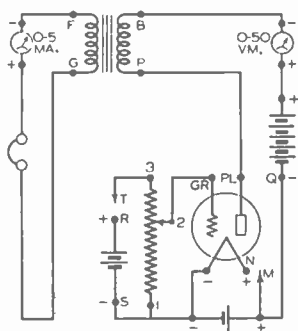

FIGURE 107
7. Rewire the circuit as shown in Fig. 107. Insert the tube in the socket and connect *M* to *N*. Rotate the potentiometer to zero, then connect *T* to *R*. If the potentiometer is properly set and in good condition, this connection will not affect the plate current. Now rotate the potentiometer from zero toward 100 steadily, as well as unsteadily with periods of waiting, but always in a clockwise direction. This makes the grid more and more positive, causing further increases in the plate current, and the observations will duplicate those of procedure No. 1.